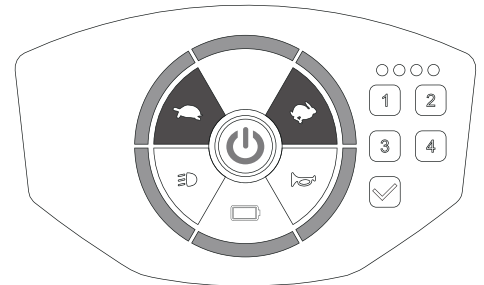

Figure 9
- Press the power switch to get the scooter on power standby (red light on), then press and hold both acceleration [🏍️] / deceleration [🛑] buttons for 2 seconds. The panel light will be all on when scooter is ready for back-light setting. (Figure 9)